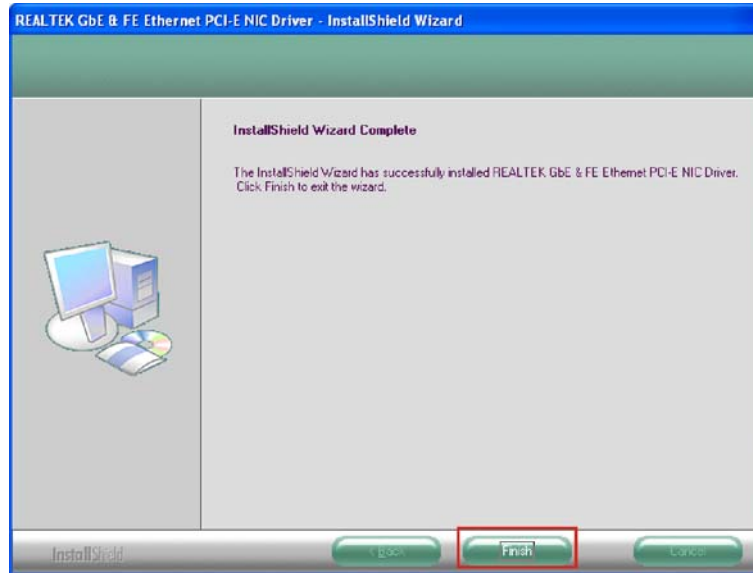

Figure 7-21: LAN Driver Installation Complete
Step 10: When the driver installation is complete, the screen in Figure 7-21 appears.
Step 11: Click **FINISH** to exit the InstallShield Wizard (Figure 7-21).